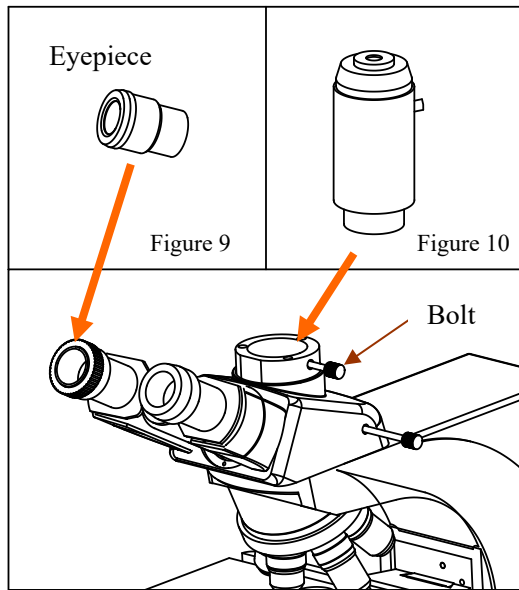
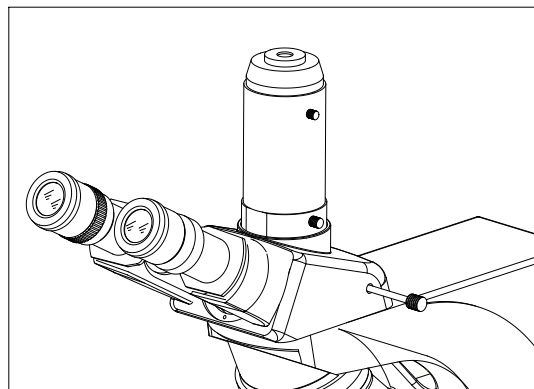

Figure 11
Figure 12
Pull out the lid of eyepiece which on the eyepiece tube, insert eyepiece (figure 9) into eyepiece tube until end. The result is showing in the figure 12.
4. Insert the video port (figure 10) into the trinocular unit (figure 11), then screw down the bolt to fix it, the result is showing in figure 12.